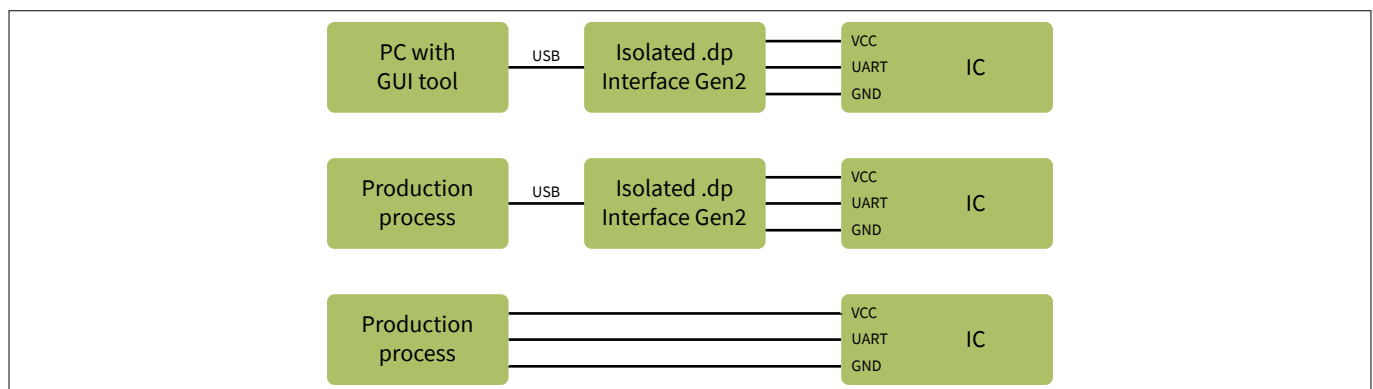

Figure 28 Setup for Parametrization using *.dp Interface Gen2* for Interactive Development (top) and Production (middle and bottom)
4. For mass production, the *XDPL8220 Programming Manual* documents the necessary interfacing and procedures to integrate the parameter configuration of XDPL8220 into the production line. **Figure 28** shows two options to easily apply the configuration of the *IC* during production tests: